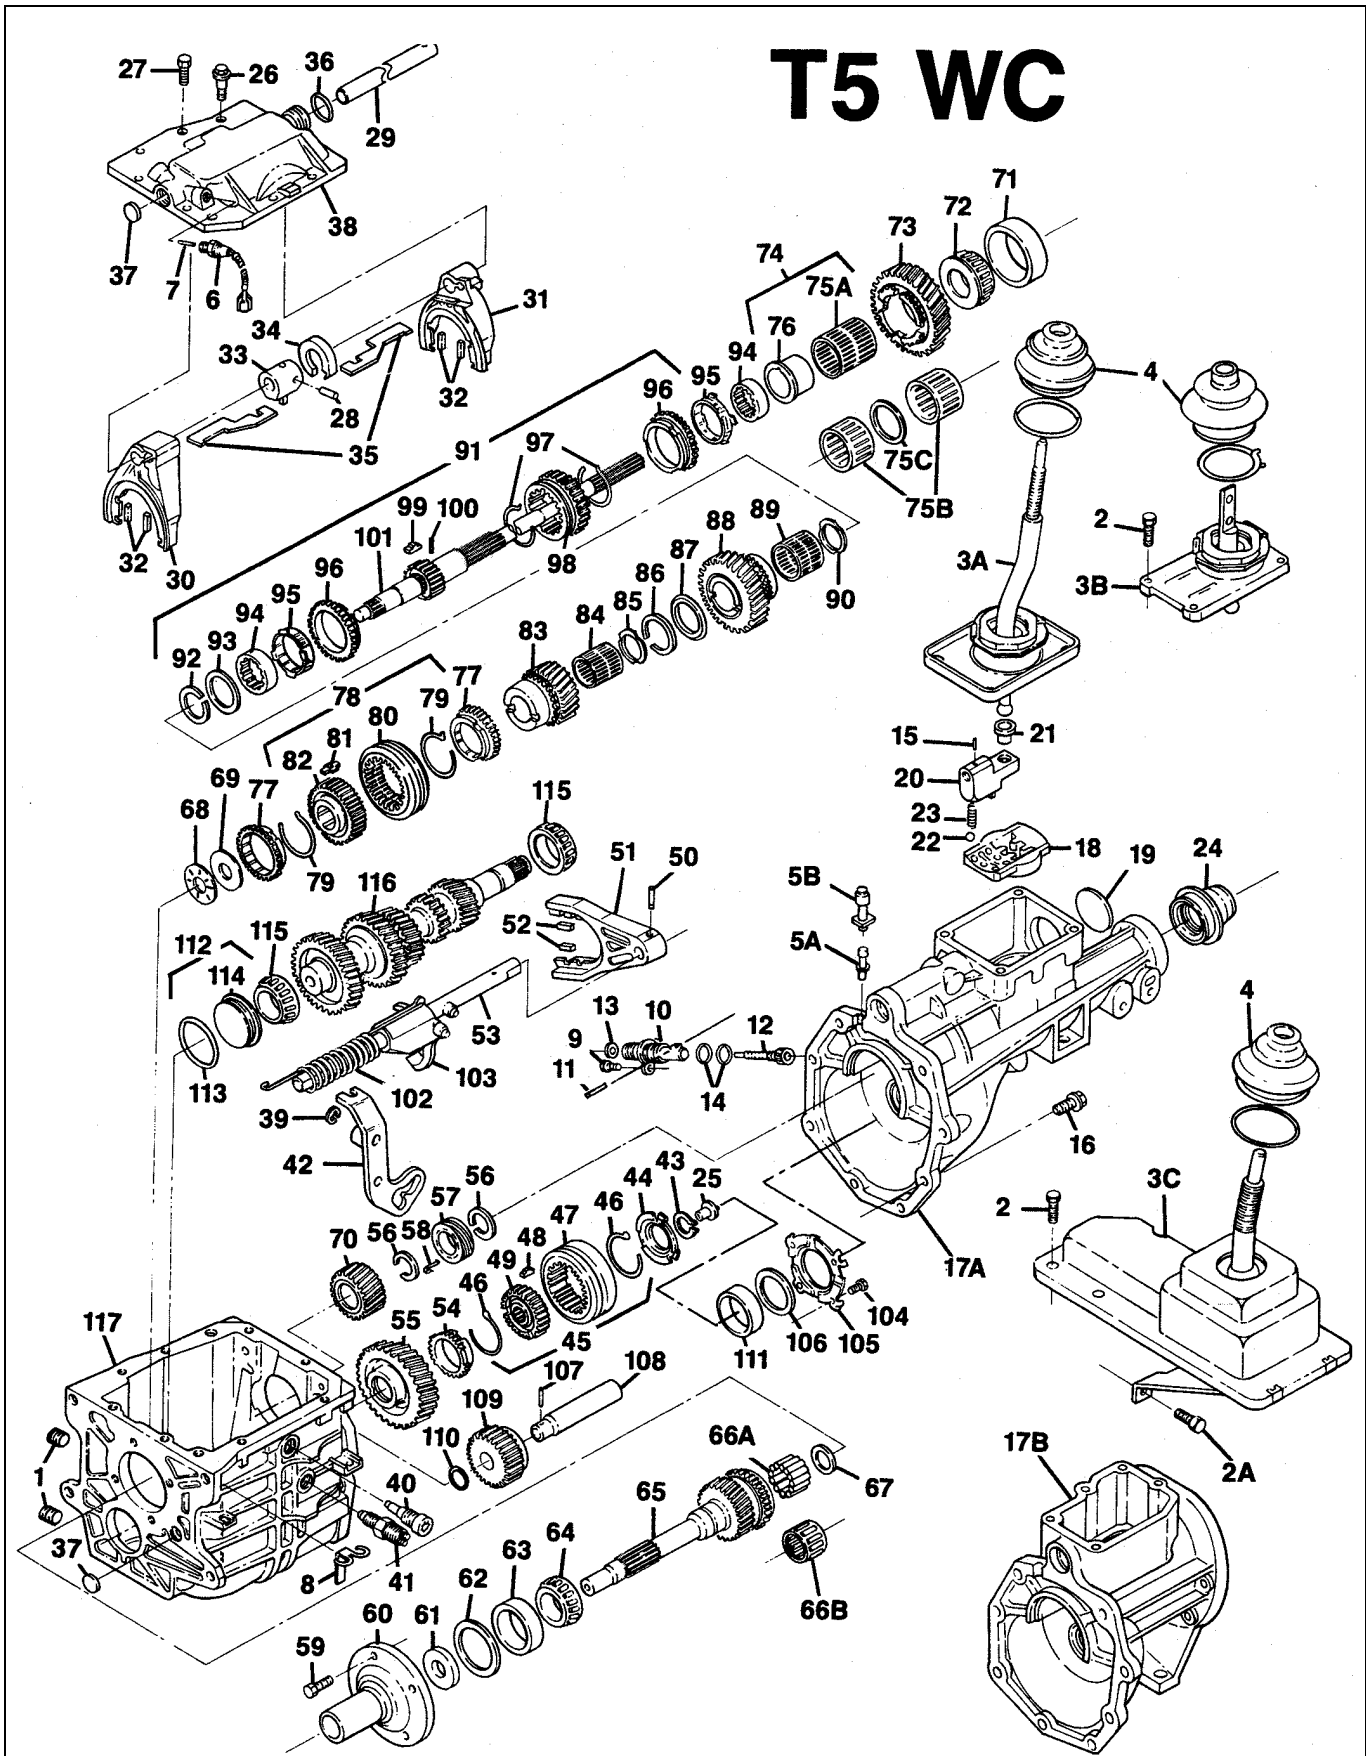

Figure 5-1. T5 WC Manual Transmission
- a. **T5 WC Anti-Friction Bearings** (see figure 5-1):
- Bearing cone (64).
- Thrust bearing (68)
- Bearing cone (72)
- Needle bearing (84)
- 2nd speed bearing (89)
- Bearing cones (115)
LEGEND FOR T5 WC, FIGURE 5-1
LEGEND FOR T5 WC, FIGURE 5-1 (CONT)